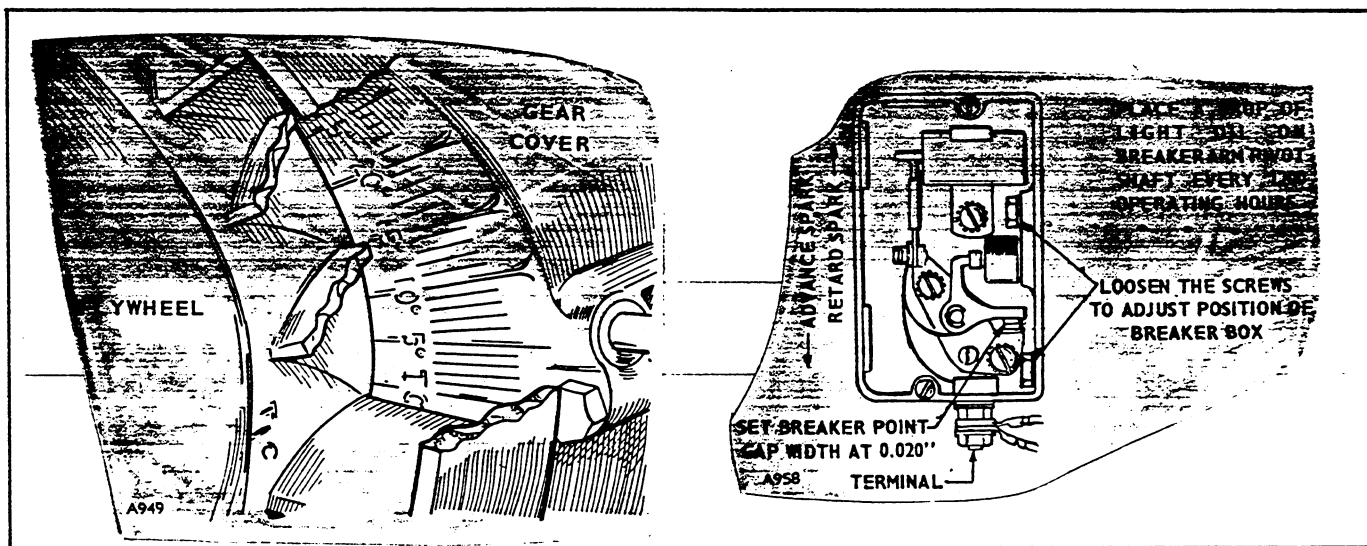

FIG. 11 - IGNITION TIMING
2. Crank the engine over slowly by hand in the direction of crankshaft rotation until the witness mark on the flywheel and the "TC" mark on the gear cover are exactly in line ON THE COMPRESSION STROKE (Fig. 11).